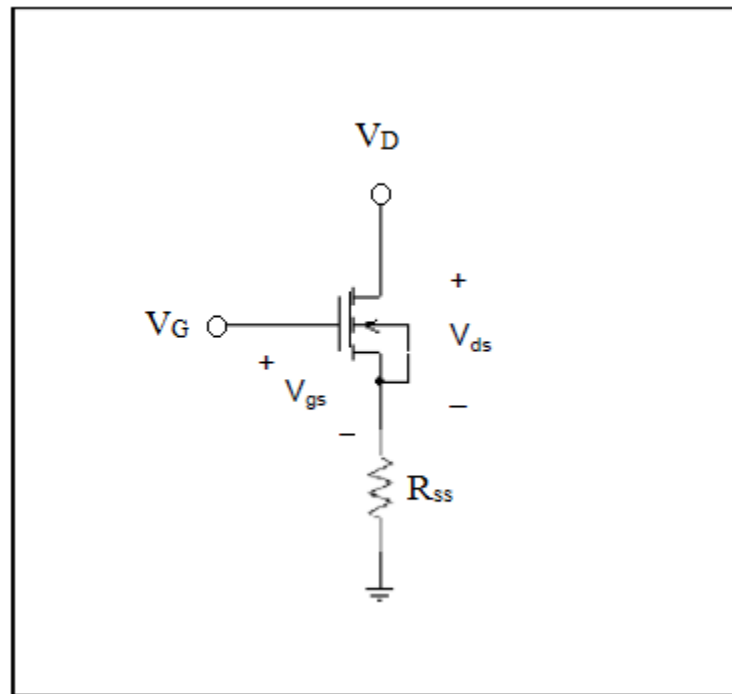

Figure 5-11: Circuit schematic for Laboratory experiment 5, exercise 1
- 1) In pre-lab problem 1, you derived expressions to calculate the mobility of electrons [cm^2/Vs], μ_n , and the threshold voltage, V_{th} , from a graph of $\sqrt{I_D}$ versus V_{GS} . Build the circuit in **Figure 5-11** with $V_D=5\text{V}$ and $R_{SS}=50\Omega$, and measure I_D while varying V_{GS} from 0-5V in .25V increments. Plot your results, and calculate μ_n and V_{th} for this transistor using the data collected. From the Spice netlist provided in **Figure 5-7**, it can be seen that the 2N7000 MOSFET has $W=8000\text{ }\mu\text{m}$, $L=2.5\text{ }\mu\text{m}$, and $T_{OX}=1\text{e-}5\text{ cm}$. How close are the measured values to the values found in the pre-lab? Hint: it is very likely that the threshold voltage does not match the value obtained in the pre-lab.
- 3) Using **Figure 5-11**, repeat pre-lab problem 3 but with measurements instead of calculations. Set V_D to 7V and sweep V_{GS} from 0V-5V in .25V increments. Calculate and plot r_o versus V_{GS} . How do your plots compare to those in pre-lab problem 3?